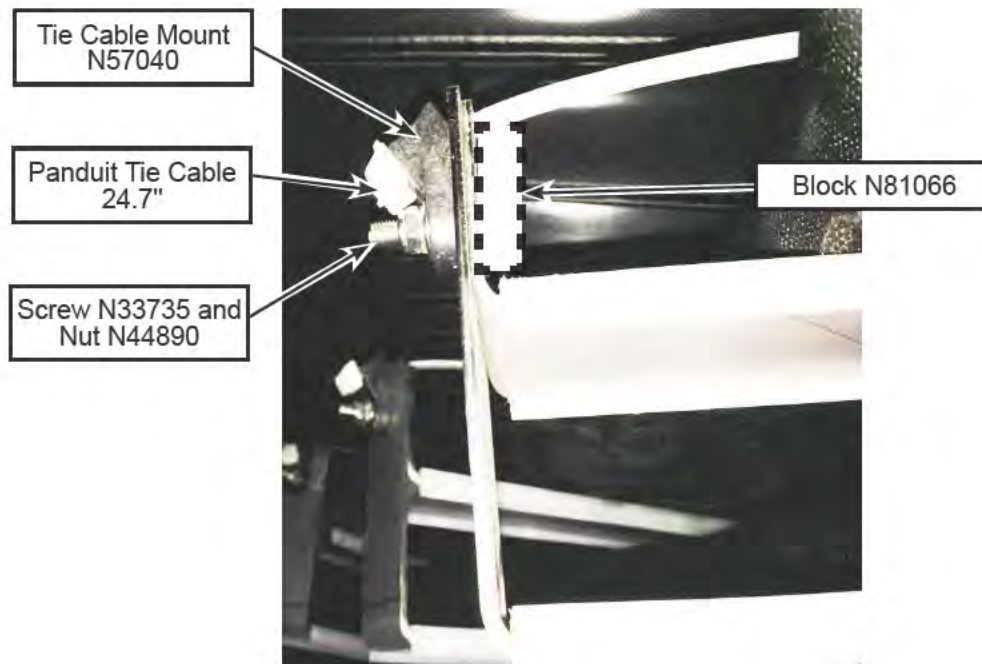
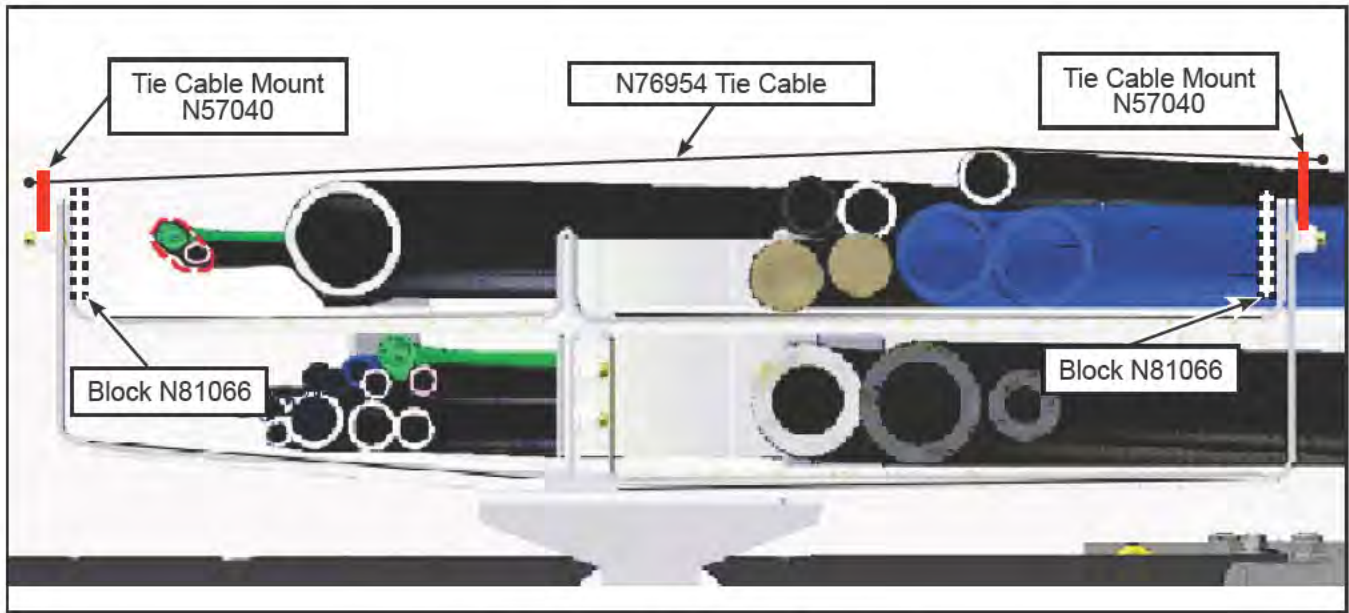

Figure 13 - Block N81066 Installation
Figure 14 - Cable Ties N76954 Installation
- 4.2. Insert a long cable tie N76954 in the cable tie mount, see Figure 13, to use it as a retaining device for the components in the upper trays. Put the smooth side facing down. Lock it with a second cable tie N76954 in the mount on the other side of the tray. Do not put too much tension, do not squeeze the components. Cut off the excess. See Figure 14.